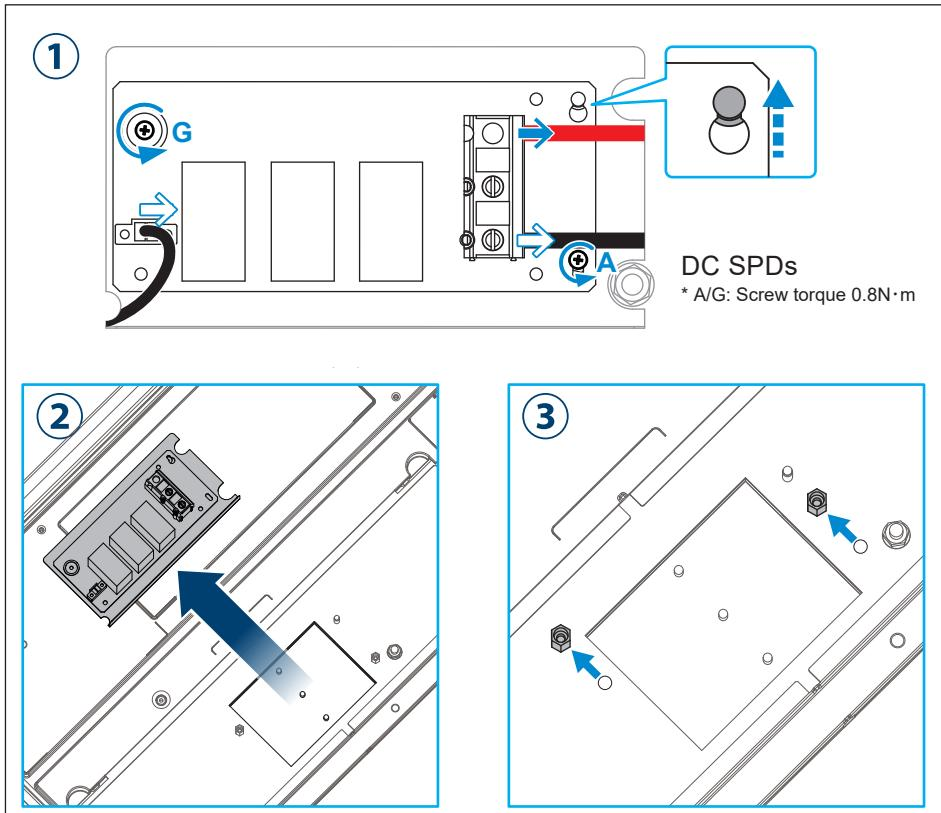

Figure A-4: Disassemble and remove two screws to remove DC SPD PCB
2. Disassemble and remove two screws and DC SPD PCB refer **Figure A-4**.
3. Remove the Copper column (**Figure A-4 ③**)